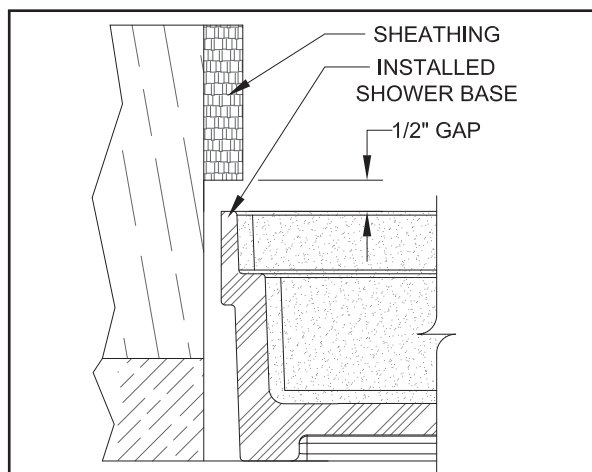

FIG. 8- SHEATHING MATERIAL GAP
7. If installing sheathing material for the shower wall, **allow for Plumbing Outlets and make sure there is a 1/2" vertical gap between the sheathing material and the Base to prevent water damage from wicking (SEE FIG. 8).**